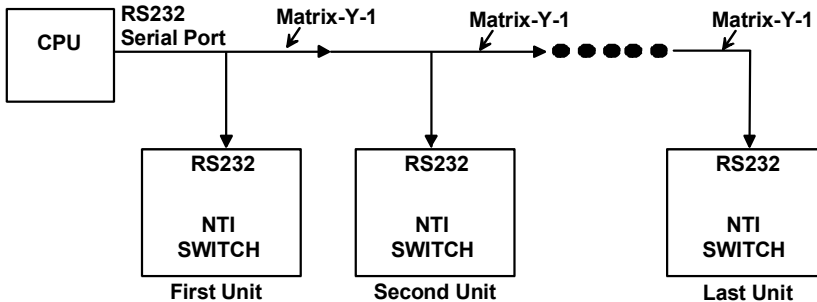
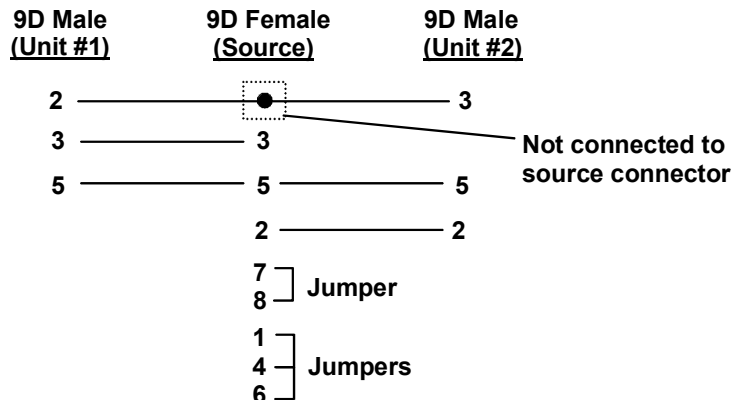

Figure 6- RS232 connection with Matrix-Y-1 cable
Figure 7- Pinout of Matrix-Y-1 cable
**Note:** In order to connect multiple VIDMUX units together a Matrix-Y-1 cable must be used. (See Fig. 6.) See Fig. 7 for the pinout of the Matrix-Y-1 cable. The Matrix-Y-1 cable is available from Network Technologies Inc.